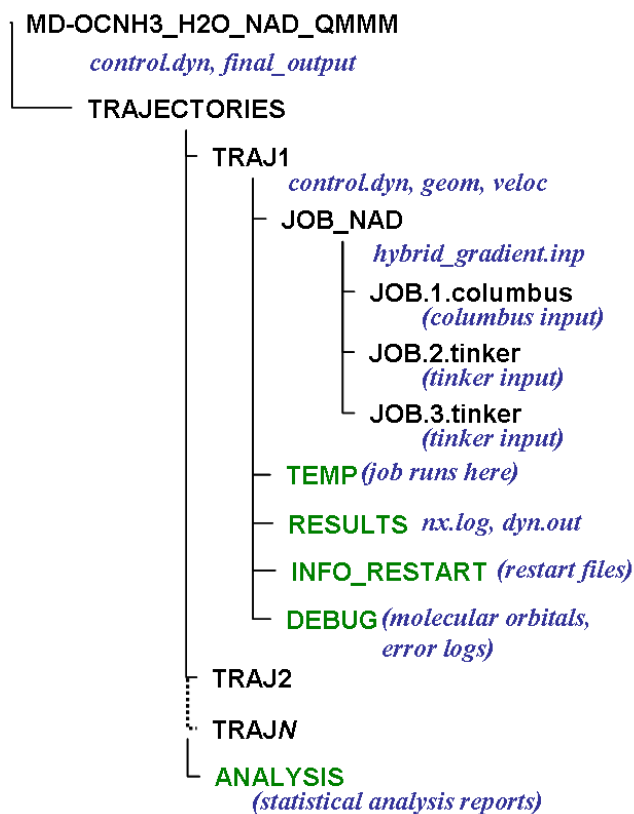

Fig. 16. Directory tree for a complete QM/MM surface hopping dynamics job with NEWTON-X.
13. The trajectories have been created in the `TRAJECTORIES` directory from where you can run them as usual. The final directory structure is shown in Fig. 16, including the results directory.